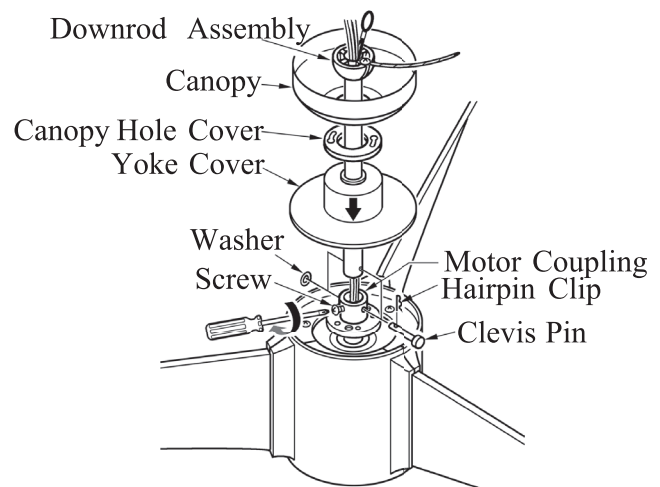

FIG.5
2. Insert the down rod through the center opening in the canopy, canopy hole cover, yoke cover and route the motor leads through the hanger ball/downrod assembly. Align the clevis pin holes in the downrod with the holes in the motor coupling. The clevis pin must pass through the holes in the motor coupling and the downrod. Place the washer onto the clevis pin and install the hairpin clip making sure to push straight leg of the hairpin clip through the hole near hanger ball to make sure the clevis pin is properly installed. (See fig.5)